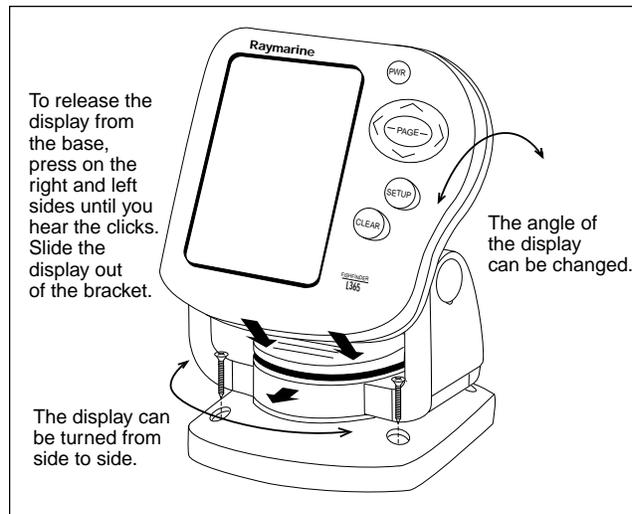

Fig. 2-9
You may mount the display unit on any flat surface using the bracket supplied. See Fig. 2-9. (There is also an optional kit which allows you to flush-mount the display in a flat panel or dashboard). Follow these instructions if you are using the standard mounting bracket:
2. Remove the display unit from the bracket by pressing on the large button in the center of the bracket. See Fig. 2-9.
See Fig. 2-9. To release the display from the bracket, press and hold down the left and right sides. You will hear an audible "click," and the bracket will slide out.